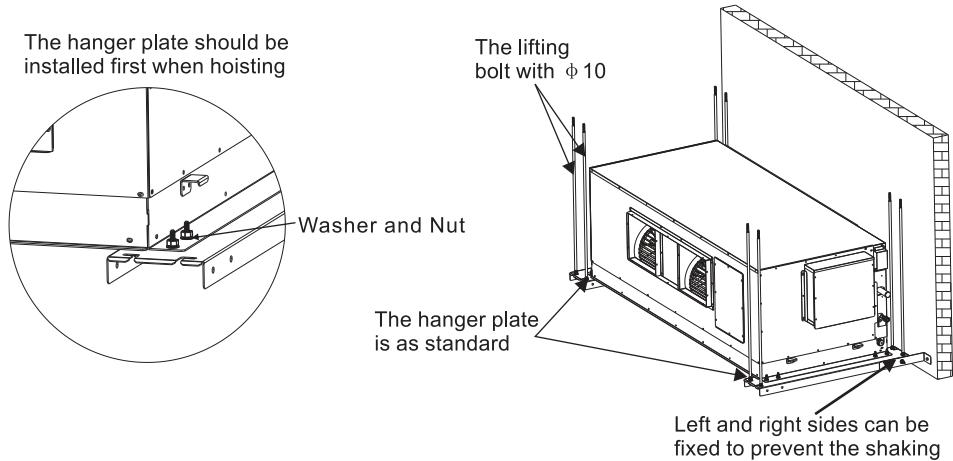

Figure 3.10
- 4) The high static pressure ducted unit 45.0kW~56.0kW and the fresh air 45.0kW~56.0kW need use hanger plate to install. The hanger plate is as standard. (The hanger plate should be installed when hoisting, and use the eight lifting bolt with $\phi 10$). Refer to Figure 3.10.